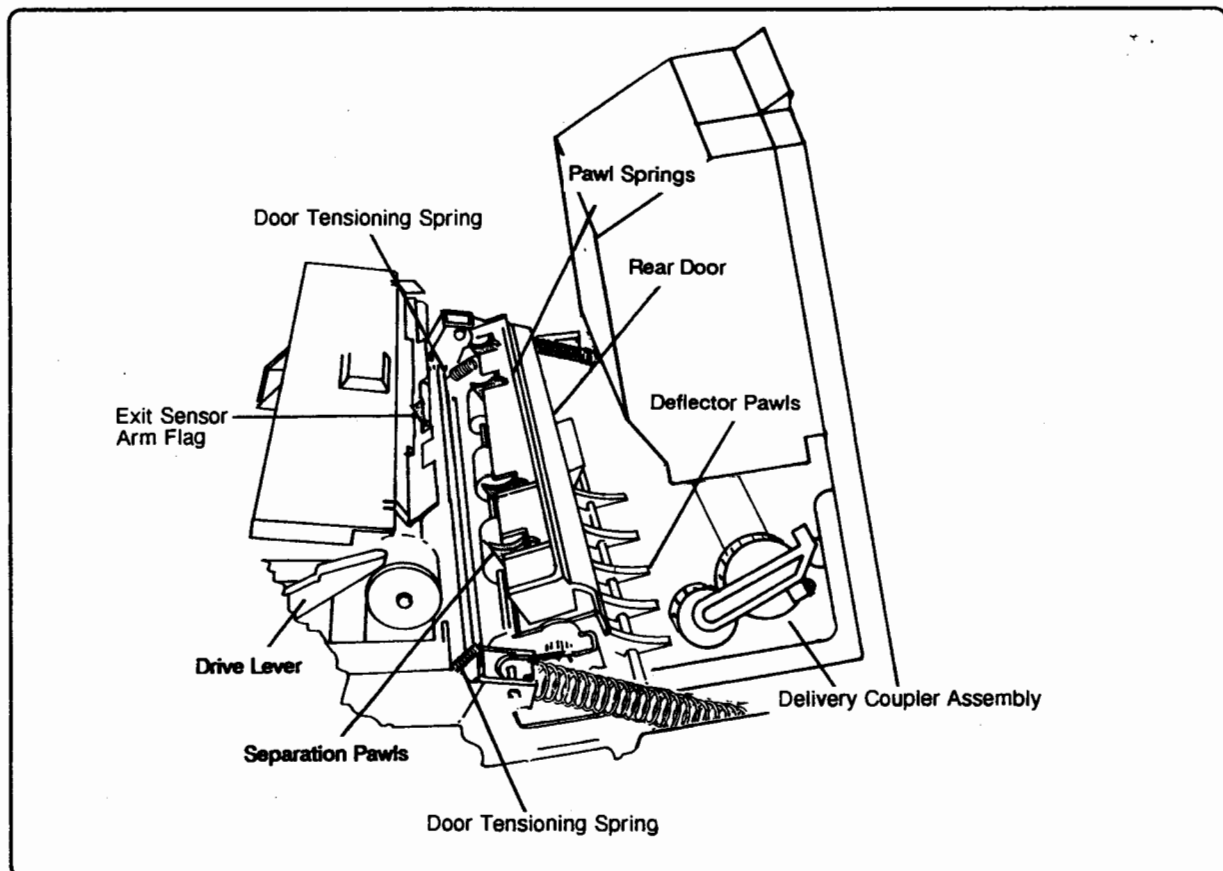

Figure 7-15. Paper Exit Area
Paper movement through the printer can be visually observed by initiating a TEST PRINT operation with the Top Cover Assembly open. To do this, open the Top Cover Assembly and defeat the Top Cover Interlock Switch. With one hand, hold down one of the Drum Sensitivity Microswitches (see Figure 7-17) and, with the other, press the TEST PRINT button on the lower right side of the printer. This should feed paper up to the point it enters the Fusing Assembly. By holding down the fusing system drive lever (see Figure 7-15), the paper will continue through the Fusing Assembly as well. Note that there will be a momentary pause in paper movement, followed by an ERROR 51 indication. This is normal operation since the Laser Shutter Arm, normally engaged by the EP-S Cartridge, does not allow laser light to reach the beam detect cable.
Drive for the Fusing Assembly is achieved when the printer Top Cover Assembly is closed. Closing the cover forces a molded protrusion in the rear portion of the Top Cover Assembly to push against a lever on the right end of the Fusing Assembly (see Figure 7-15). Pushing down this lever causes the main drive gears of the Fusing Assembly to engage with the drive gear train from the Main Motor. Drive to the Top Cover Assembly is provided by the Fusing Assembly when the Top Cover Assembly is closed via the Delivery Coupler Assembly (see Figure 7-15).
2. Open the rear door of the Fusing Assembly. Are the Fuser Separation Pawls correctly attached to the rear fuser door with the tension springs?	Visually inspect and clean if necessary (refer to Figure 7-15).
3. Are the right and left fuser rear door tensioning springs in position?	Visually inspect, (refer to Figure 7-15). Replace if damaged or missing.
4. Are the Paper Exit Sensor Arm and photointerrupter damaged or broken? Is anything hindering the Paper Exit Sensor Arm's motion?	Visually inspect, (refer to Figure 7-15). Replace if damaged.
6. Is the Deflector Pawl Assembly correctly positioned? (Refer to Figure 7-15).	Visually inspect. When paper is to be directed to the Face-Down (Top) Output Tray, the front of the deflectors point downward and rest against the moulded protrusions on the rear exit panel. When paper is directed to the Face-Up (Rear) Output Tray, the front of the pawls face forward. Verify that the pawls are correctly positioned under these conditions.
7. Is the Delivery Coupler Assembly correctly positioned? (Refer to Figure 7-15).	The gears should be pointing downward as shown in Figure 7-15. Is the gear tensioning spring riding on the metal frame of the hinge bracket? If the gears are out of position or the spring tab is bent or damaged, correct or replace. Note: Earlier Delivery Coupler Assemblies were manufactured with the spring riding on the top bracket surface. Newer assemblies are designed so that the spring rides on the rear bracket surface.